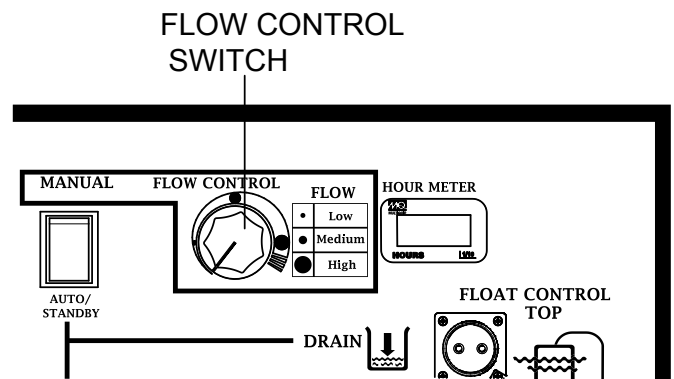

Figure 12. Flow Control Switch
3. After the engine has started, turn the flow control switch to the desired flow volume (Figure 12).